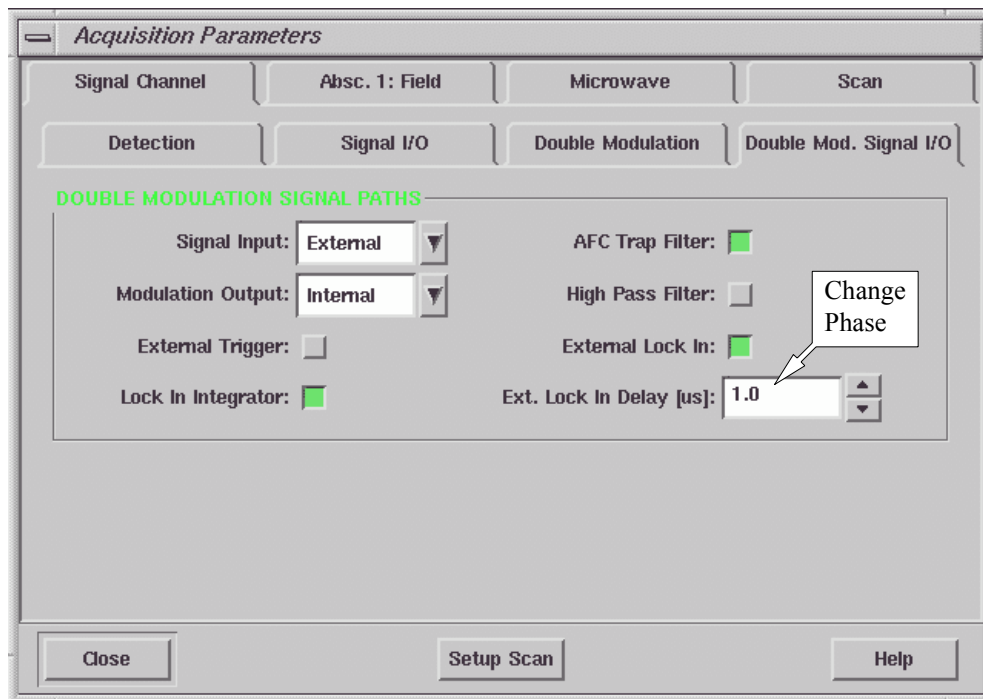

Figure 14-23 Configuring Double Mod. Signal I/O.
7. **Configure Double Mod. Signal I/O.** Click the Double Mod. Signal I/O tab. Select External for Signal Input. You may need to activate the High Pass Filter and the Lock In Integrator to reduce the noise. Click External Lock In to activate it (green). (See Figure 14-23.)
Enter the value in the Ext. Lock In Delay box. (See Figure 14-23.)